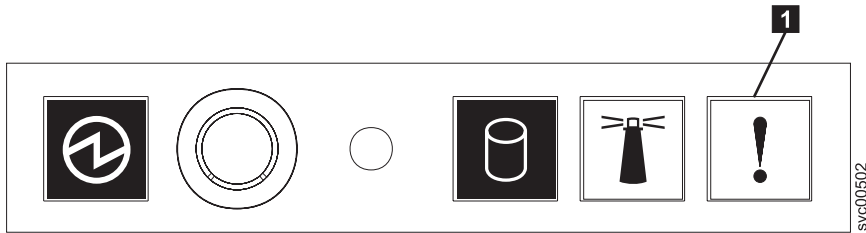

Figure 86. SAN Volume Controller 2145-8A4 operator-information panel
1. **Is the Error LED, shown in Figure 86 on page 246, on the SAN Volume Controller 2145-8A4 operator-information panel on or flashing?**